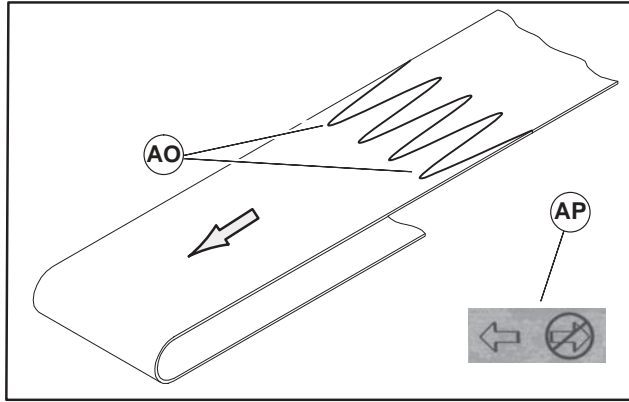

Figure 23
- Remove belt (Figure 23, item AN) from conveyor.